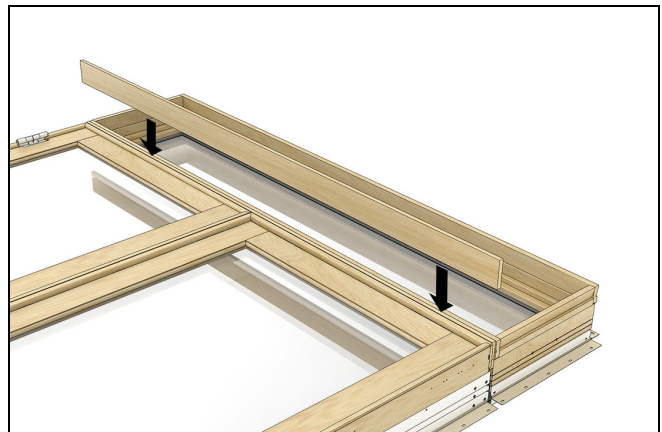

Figure 55
40. Insert 6 9/16" ELIFD mull support on top of the MRF between the cavity of the two frames. Ensure the mull support is flush with the interior plane of the unit frames. See Figure 55.